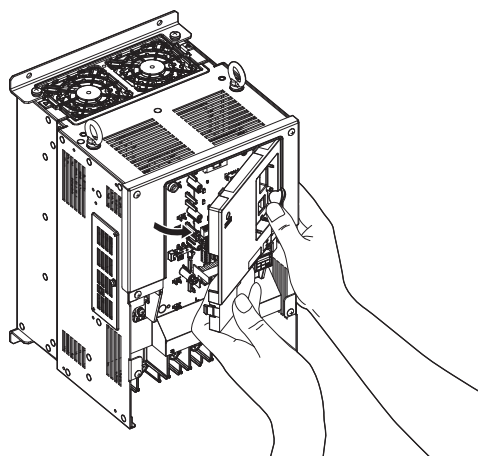

Figure 3.13 Remove the Front Cover (Models CIMR-L□2A0085 to 2A0415 and 4A0045 to 4A0216)
4. Unhook the left side of the front cover then swing the left side towards you as shown in Figure 3.13 until the cover comes off.